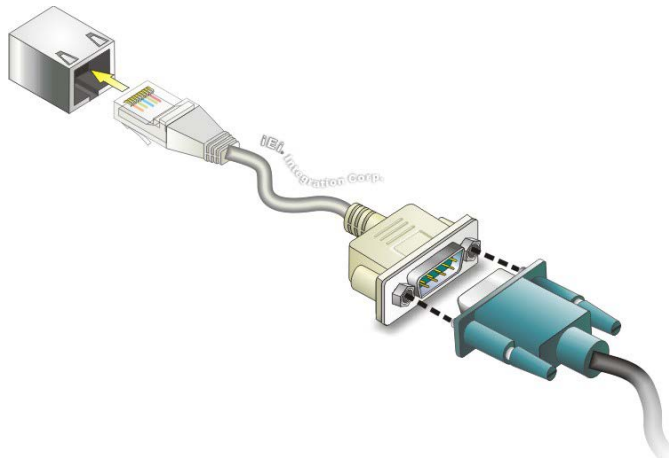

Figure 3-12: Serial Device Connection
Step 3: Insert the serial connector. Insert the D-sub 9 connector of a serial device into the D-sub 9 connector on the cable. See Figure 3-12.